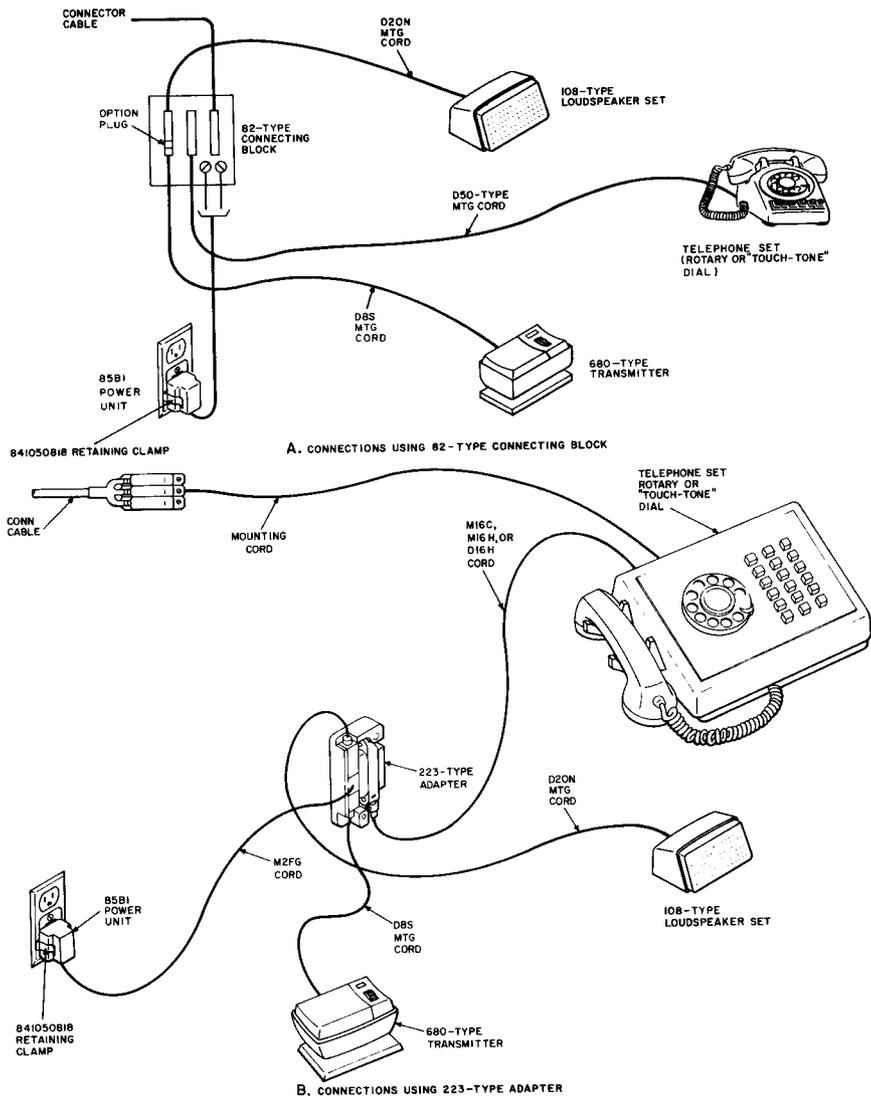

Fig. 1—Typical Arrangements of 4A Speakerphone System
**2.23** A retaining clamp (841050818) (Fig. 1 and 2) will be shipped with the 85B1 power unit.
**3.04** A retaining clamp (841050818) (Fig. 1 and 2) should be mounted to the ac receptacle to hold the power unit securely and to prevent accidental loss of power.